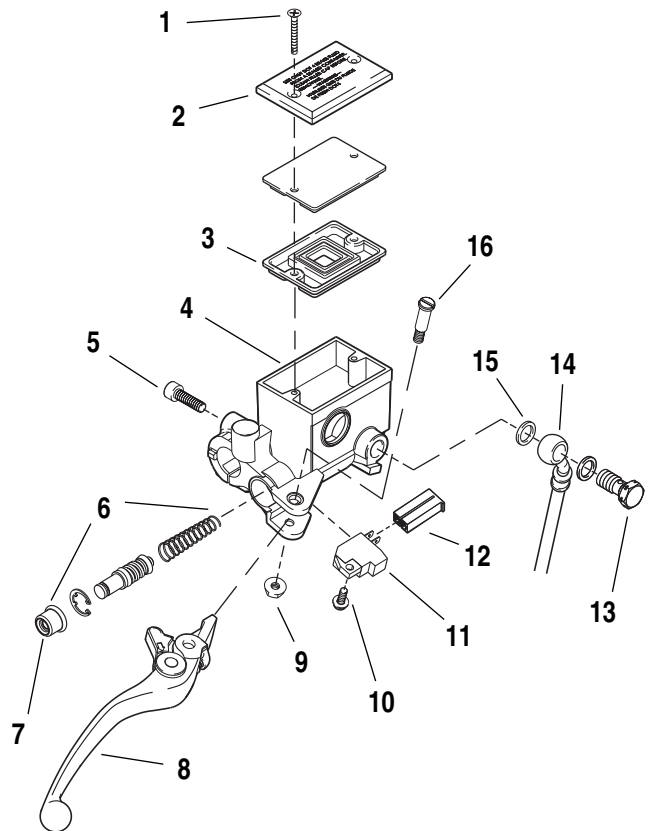
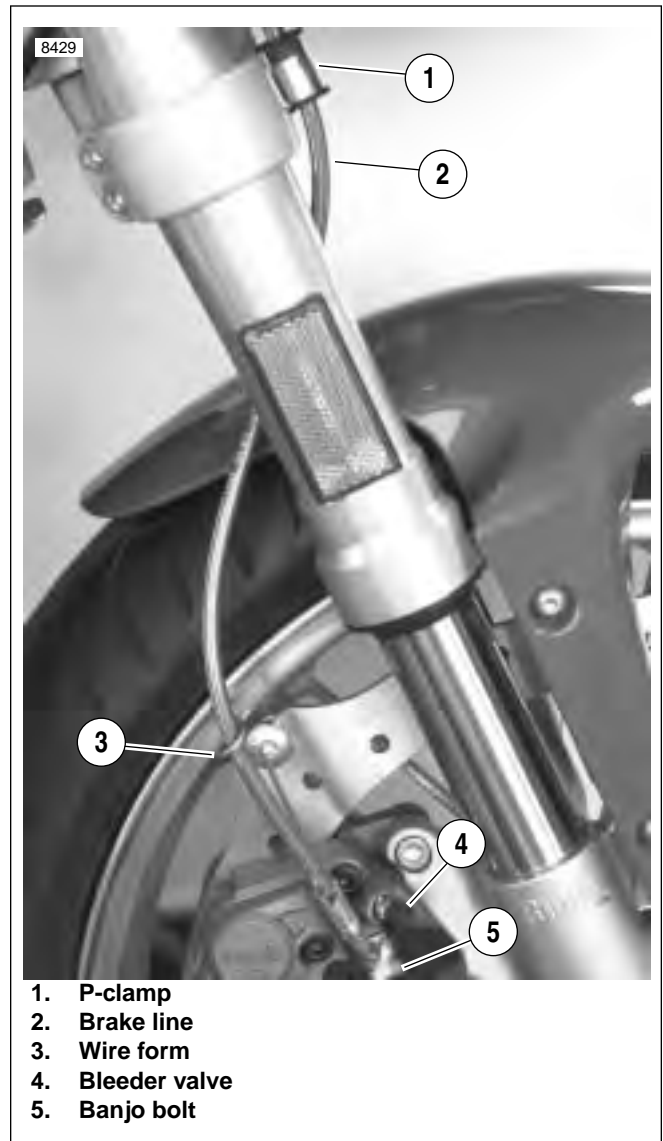

Figure 2-38. Front Brake Hand Lever Assembly
Figure 2-43. Front Brake Line
2. See Figure 2-38. Remove the banjo bolt (13) (metric) and two copper washers (15) to disconnect brake line (14) from master cylinder (4). Discard copper washers.
3. Unplug terminal (12) to detach brake lamp switch (11).
1. See Figure 2-38. Remove pivot bolt nut (9) (metric) and pivot bolt (16) from hand lever pivot.
2. Detach front brake hand lever assembly (8) from hand lever pivot.
3. Detach front brake lamp switch (11) by removing the switch fastener (10).
1. See Figure 2-38. Remove master cylinder cover (2) by removing cylinder cover fasteners (1).
3. Remove rubber boot (7) and discard.
5. See Figure 2-38. Remove piston assembly (6) from front master cylinder reservoir (4) and discard.
4. See Figure 2-38. Insert piston assembly (6), spring first, into master cylinder reservoir (4).
1. See Figure 2-38. Lubricate pivot bolt (16) with LOCTITE ANTI-SEIZE.
2. Align hole in hand lever (8) with hole in hand lever pivot and install pivot bolt (16) through top of hand lever pivot and tighten nut to 80-120 **in-lbs** (9-13.5 Nm).
1. See Figure 2-38. Install front brake lamp switch (11).
- a. Install brake lamp switch (11) with switch fastener (10) and tighten to 7-10 **in-lbs** (0.8-1.0 Nm).
- b. Connect brake switch terminal (12) to brake lamp switch (11).
3. See Figure 2-38. Connect brake line to master cylinder using two **new** copper washers (15) and banjo bolt (13) (metric) and tighten to 16-20 **ft-lbs** (22-27 Nm).
5. See Figure 2-38. Remove two master cylinder cover screws (1), cover (2) and cover gasket (3).
10. See Figure 2-38. Attach master cylinder cover (2) and cover gasket (3). Tighten two cover fasteners (1) to 9-13 **in-lbs** (1.0-1.5 Nm).
2. See Figure 2-43. Remove p-clamp (1) detaching brake line from right side of lower fork clamp.
3. See Figure 2-38. Remove master cylinder banjo bolt (13) (metric) and two copper washers (15) to disconnect brake line from master cylinder (4). Discard copper washers.
4. See Figure 2-43. Remove caliper banjo bolt (5) (metric), two copper washers and wire form (3) to disconnect brake line (2) from caliper. Discard copper washers.
1. See Figure 2-38. Connect brake line (14) to master cylinder (4) using two **new** copper washers (15) and a banjo bolt (13) (metric). Loosely install bolt into master cylinder.
- a. See Figure 2-43. Install **new** copper washer, brake line (2), **new** copper washer and wire form (3) onto banjo bolt (5).
- b. Finger tighten banjo bolt (5) onto front caliper being careful not to pinch wire form (3) while tightening, wire form should rotate around banjo bolt freely.
- c. Twist brake line (2) into wire form (3) spiral and clock wire form against bleeder valve (4).
4. Tighten p-clamp with fastener (1) on lower triple clamp to 36-60 in-lbs (4-7 Nm).
5. See Figure 2-38. Tighten master cylinder banjo bolt (12) (metric) to 16-20 ft-lbs (22-27 Nm).
6. See Figure 2-43. Tighten brake caliper banjo bolt (5) (metric) to 16-20 ft-lbs (22-27 Nm).